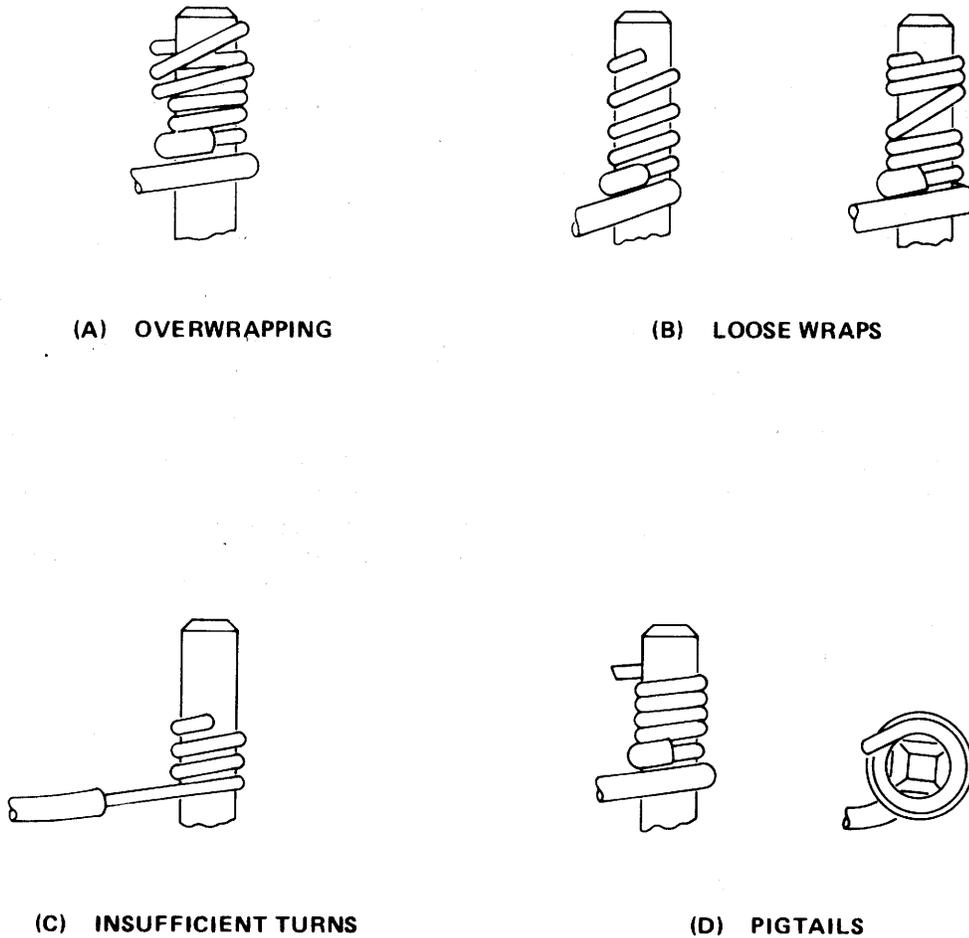

Figure 6-64. Wire Wrap Examples.
6-76. Unacceptable Wire Wraps. Improper use of the wire wrap gun can result in unacceptable wire wrapping (see figure 6-64). Overwrapping, loose wraps, insufficient turns and pigtailed are explained below:
1. Overwrapping [figure 6-64(A)] results when excessive forward pressure is used on the wire wrapping gun during the wrapping process.
2. Loose wraps [see figure 6-64(B)] are created when the wire wrap gun is pulled away from the chassis during the wrapping process.
3. Insufficient turns [see figure 6-64(C)] are caused by not having the wire insulation completely inserted into the outer hole of the bit prior to starting the wire wrap.
4. Pigtailed [see figure 6-64(D)] are created when the wire wrap is not completely formed around the pin. This normally results from selecting an incorrect bit and sleeve combination, or terminating the wrap before the full length of wire is wrapped around the pin.